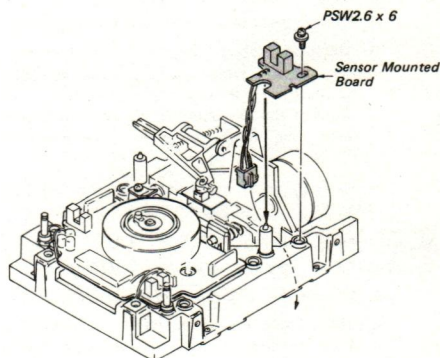

Fig. 4-12 Sensor Mounted Board Replacement
- h. Remove the screw (PSW2.6 x 6) which fastens the Sensor Mounted Board and remove the Sensor Mounted Board. (Refer to Fig. 4-12)
- a. Feed the harness of Sensor Mounted Board as shown by the arrow, set the Sensor Mounted Board onto the chassis along the positioning pin, and fasten lightly it with the screw (PSW2.6 x 6). (Refer to Fig. 4-12)